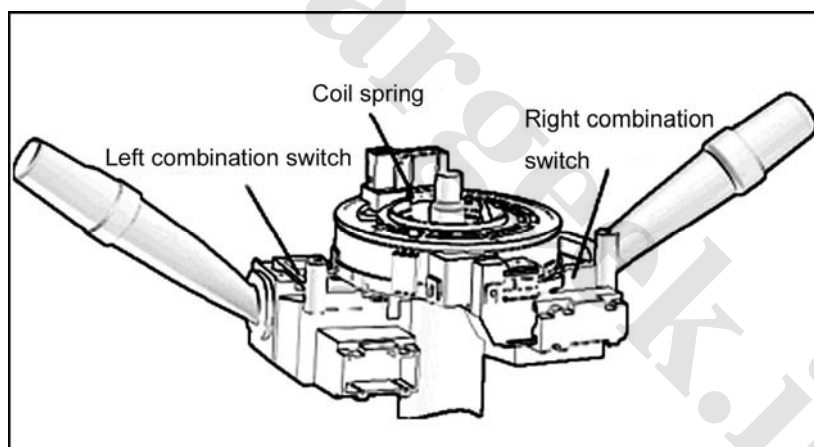

Fig. 2-31
11) Remove the left combination switch (headlamp dimmer switch assembly), as shown in Fig. 2-31.